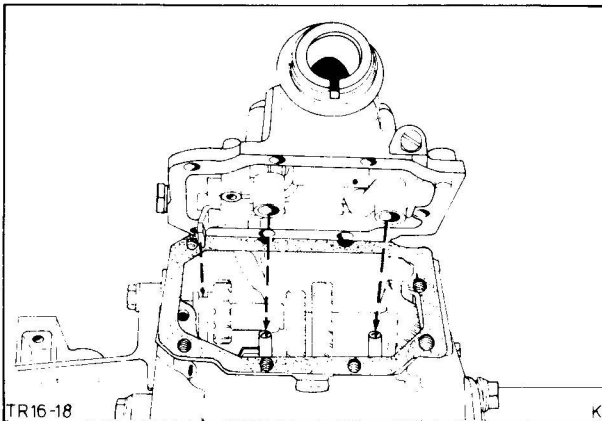

Fig. 21. Selector housing removed
5. Detach selector housing from gearbox casing (7 bolts), Fig. 21.